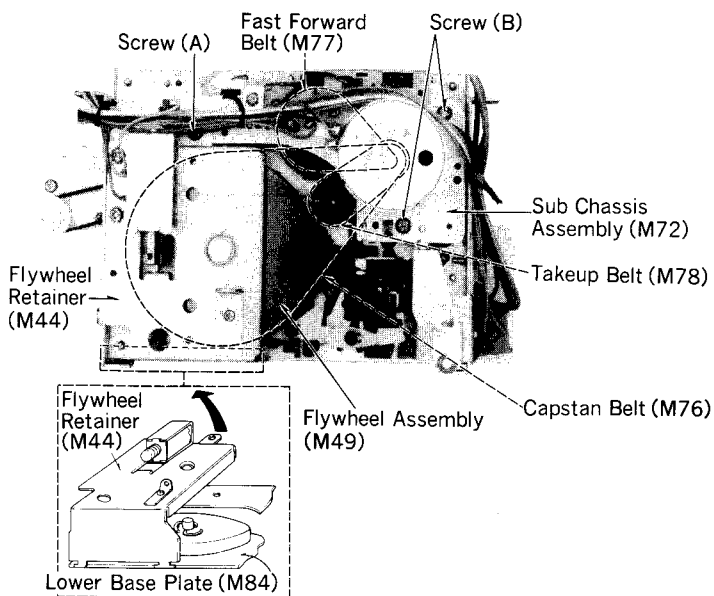
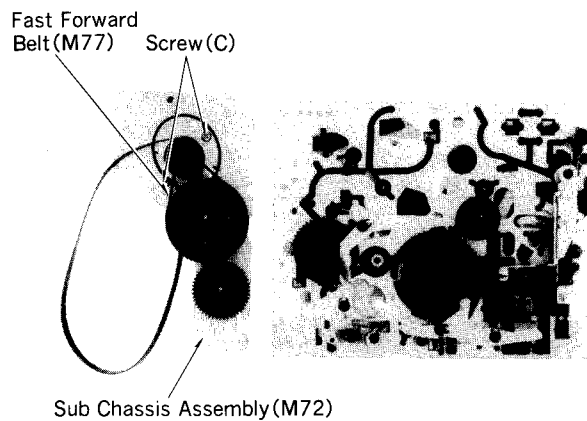

Fig. 10
Fig. 11
1. Remove screw (A), and then detach flywheel retainer (M44) by pulling it in the direction of the arrow as in fig. 10.
2. After removing screws (B), detach takeup belt (M78) and capstan belt (M76), and then sub chassis assembly (M72) can be removed. (fig. 10) (fig. 11)
3. When screws (C) is removed after detaching fast forward belt (M77), motor assembly (M71) can be removed.
5. Attach the screw (A) in the position as shown in fig. 10.